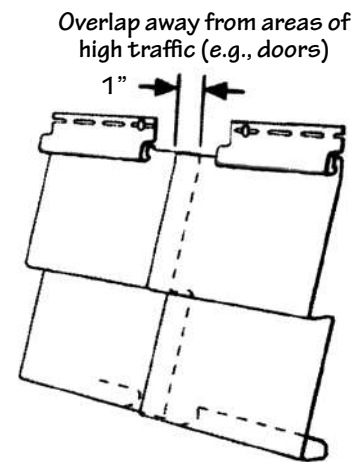

Figure 38.
- When panels overlap, make sure they overlap by one-half the length of the notch at the end of the panel, or approximately 1" (25.4mm) (Fig. 38).